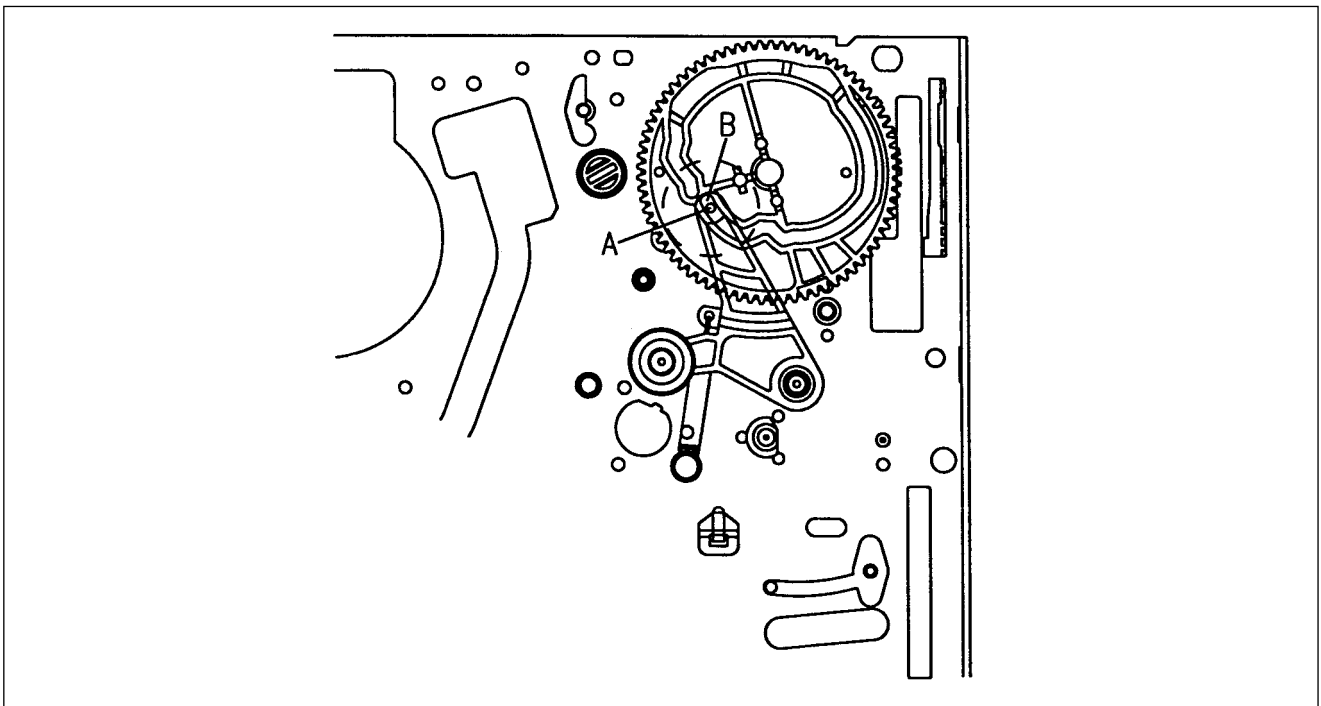

Fig. 4 – Mechanical Checks/Pinch Lever and Cam Gear Alignment
4. Make sure that the boss "A" of the Pinch Lever Total Ass'y is positioned at the point "B" of the cam gear in EJECT mode (fig. 4).